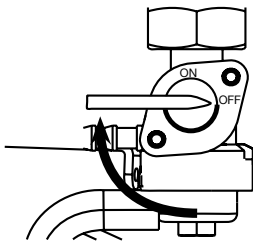

Figure 14 - Fuel Shut Off - OFF
6. Move the fuel shut off valve to the **OFF** position (see Figure 14 below).